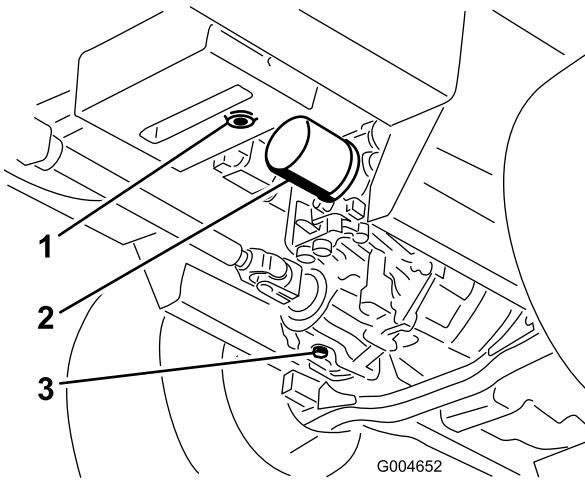

Figure 58
3. Place a large pan under the hydraulic reservoir and transmission case and remove the plugs, draining all of the hydraulic fluid (Figure 58).
4. Clean the area around the hydraulic oil filter and remove it (Figure 58).